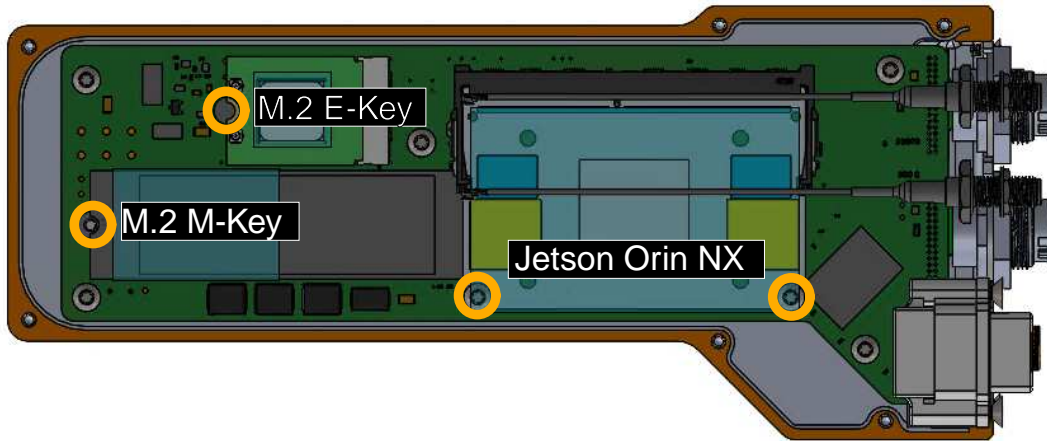

Figure 4. EDGETAK internal module screws
- Install 4 module screws as shown in Figure 4.